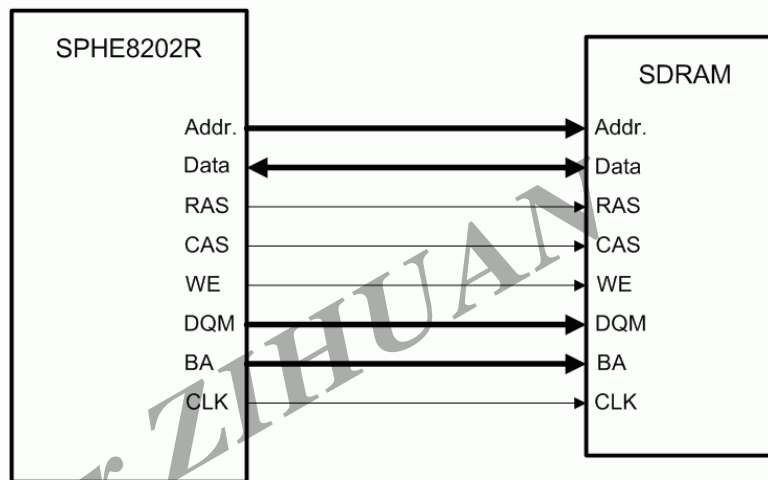

Figure 3-3 SDRAM 16-bit mode
(1) SPHE8202R support 16-bit mode , 如图 3-3。